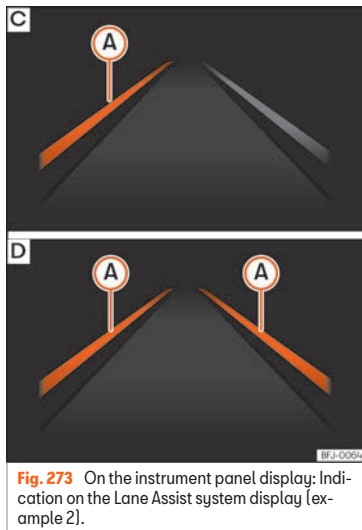

Fig. 273 On the instrument panel display: Indication on the Lane Assist system display [example 2].
- **Fig. 273 [C]:** The system is operational, the highlighted line **(A)** indicates that there was a risk of involuntarily crossing the lane line and that the steering is being adjusted to correct the angle.
- **Fig. 273 [D]:** The two highlighted lines **(A)** light up simultaneously when both lane lines are recognised and the Lane Assist function is activated.